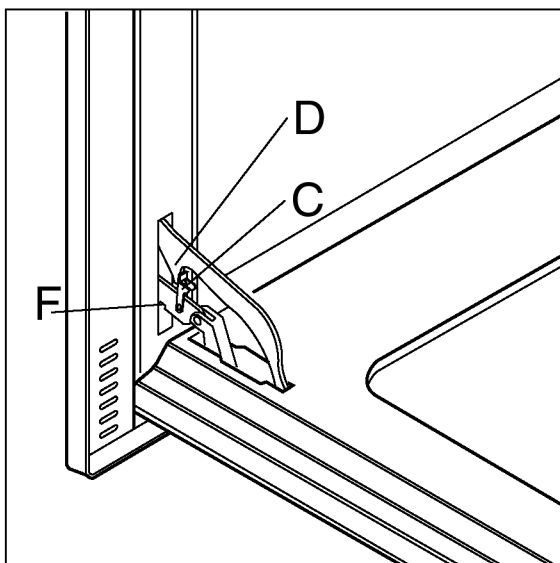

Figure 16
For ease of intensive cleaning it is practical to dismantle the door following these instructions: insert the hook (C) (**Fig. 16**) in the hinge sector (D). Put the door in half-open position and, using both hands, pull the small door towards you until it uncouples from the connection. To reassemble the door, proceed in inverse order, taking care to insert the two guides (F) correctly.